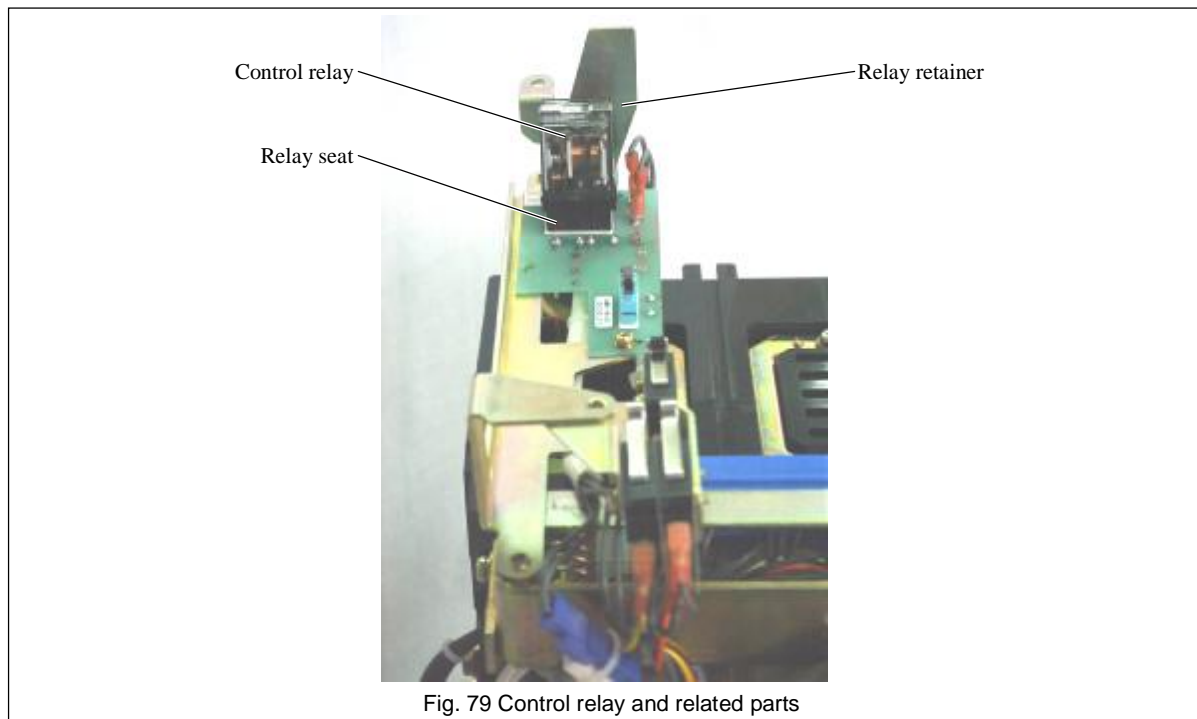

Fig. 79 Control relay and related parts
9) Remove the relay retainer shown in Fig. 79 and remove the control relay from the relay base.